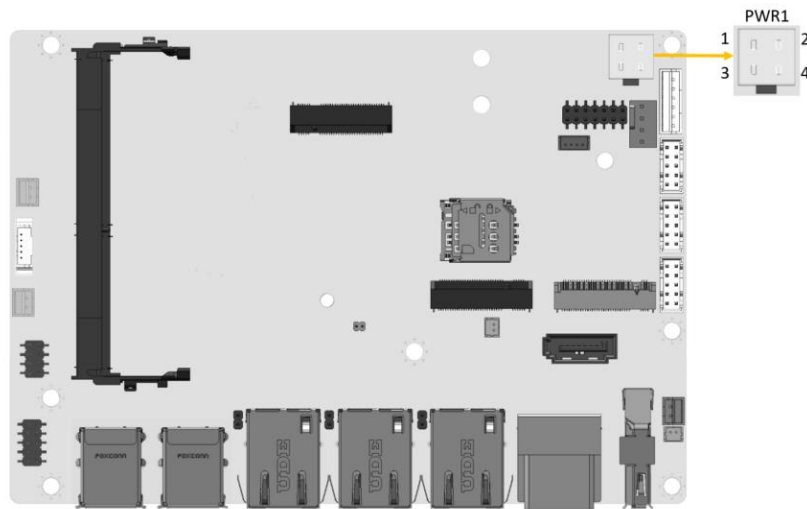

Figure 4-11: +12V DC-IN Power Connector Location
- CN Location:** See **Figure 4-11**